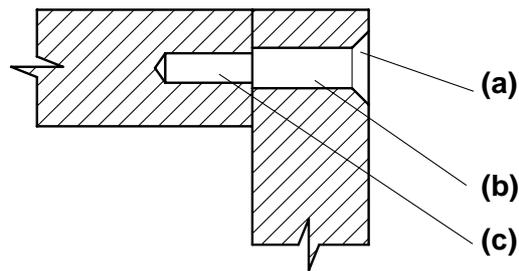

Fig. 4
- 8 The metal parts shown in Fig. 4 have been drilled in preparation for threading. Name the features.